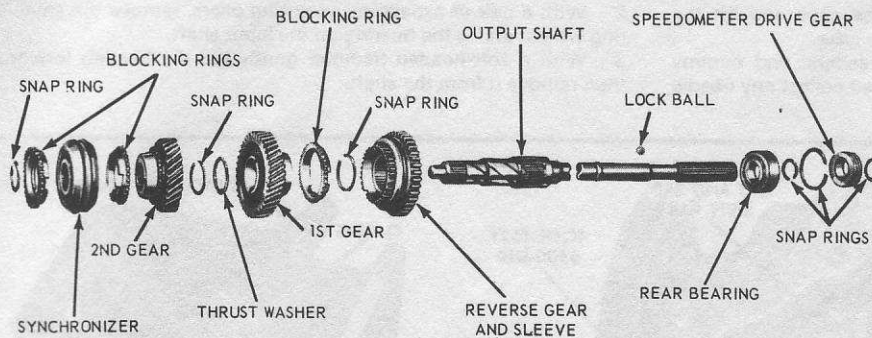

Fig. 6.14 Exploded view of output shaft assembly (3-speed) (Sec. 5)
- 2 Refer to Fig. 6.14. Remove the snap-ring from the front of the output shaft and slide the blocking rings, the synchronizer hub and 2nd gear off the shaft.